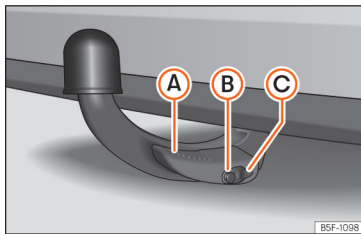

Fig. 174 Tow hook fixed correctly
- Lever (A) is facing upwards »» Fig. 174.
- The red and green part of the unlocking bolt (B) is completely visible »» Fig. 174.
- Cover (C) is over the lock »» Fig. 174.
- Keep your hands away from the lever when releasing the tow hook to avoid trapping your fingers »» Fig. 174 (A).